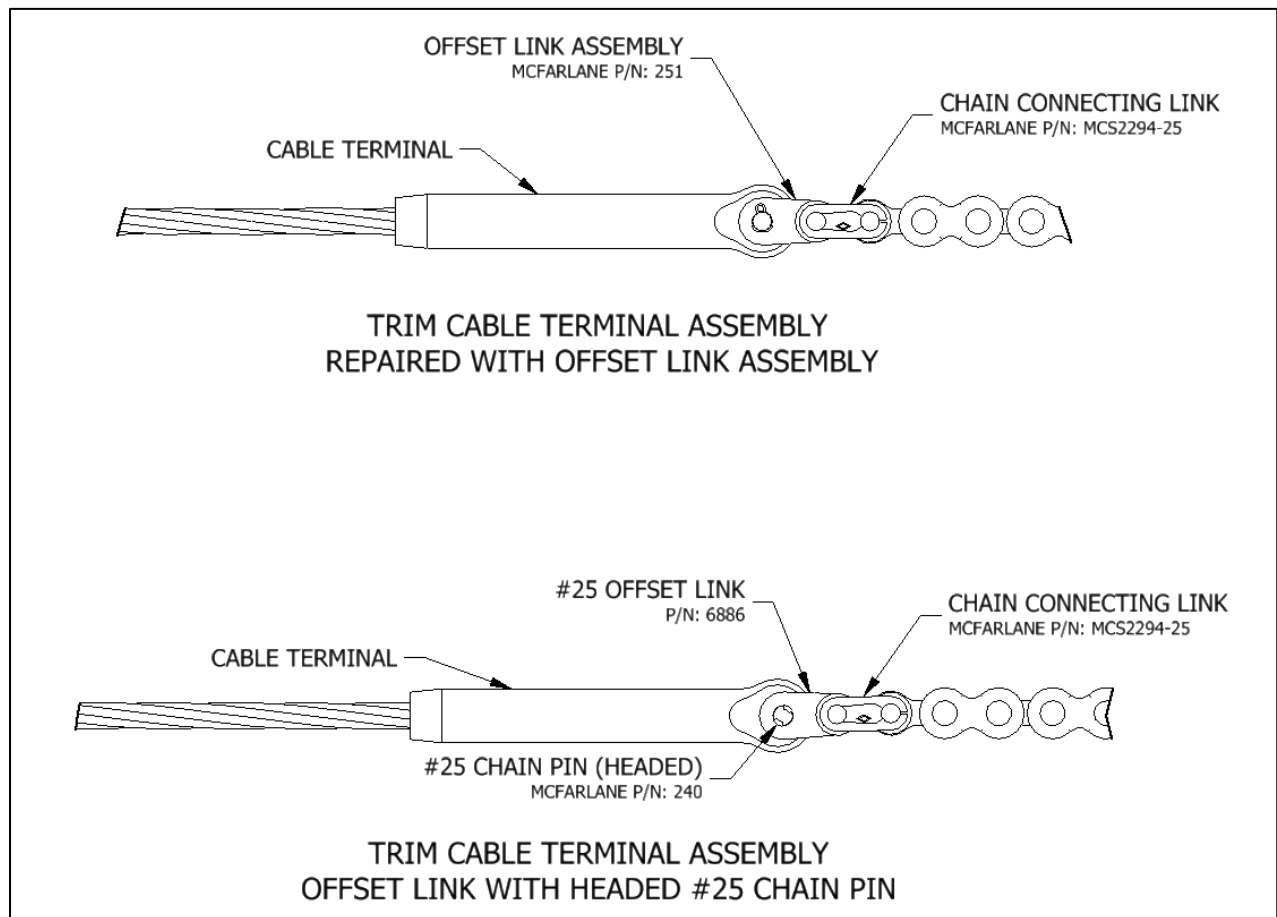

Figure 1 - Comparison of Trim Cable Terminal Assemblies
3. With rigging tension off the cable, locate the offset link and chain connecting link; see figure 1 for illustration and description of the connecting hardware. *NOTE: Only McFarlane trim cable assemblies utilize an offset link, and a chain pin connection, to connect to the connecting link.*